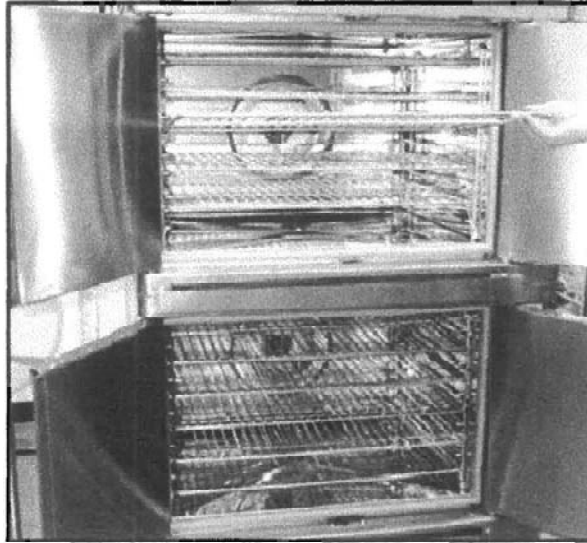

Figure 9 Oven Rack Removal
1. Remove the racks from the inside of both the upper and lower oven sections. See Figure 9.